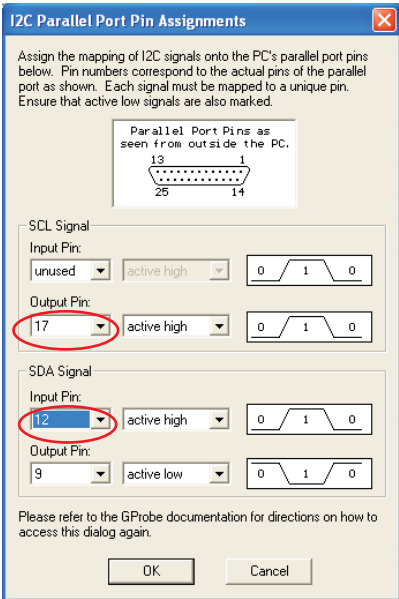

Fig.6
- 3. From the menu that appears, choose the number 17 in "output pin" and the number 12 in "input pin" as shown in Fig.6